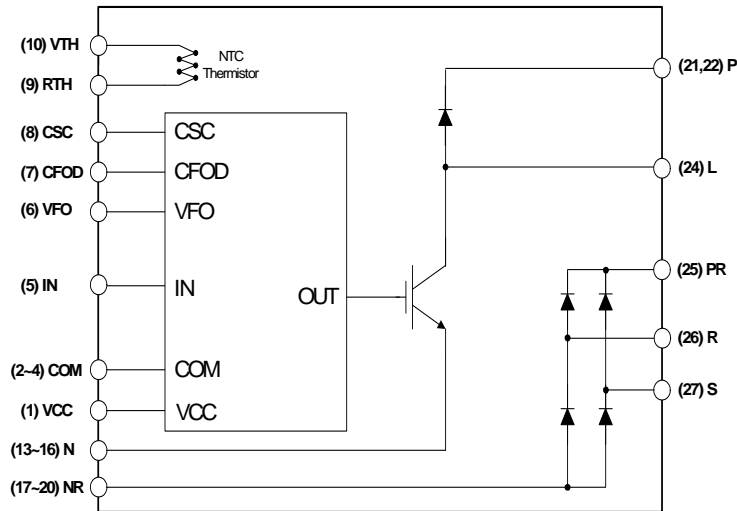

Fig. 3.
- PFC converter for 1-phase AC/DC power conversion (Please refer to Fig. 3)